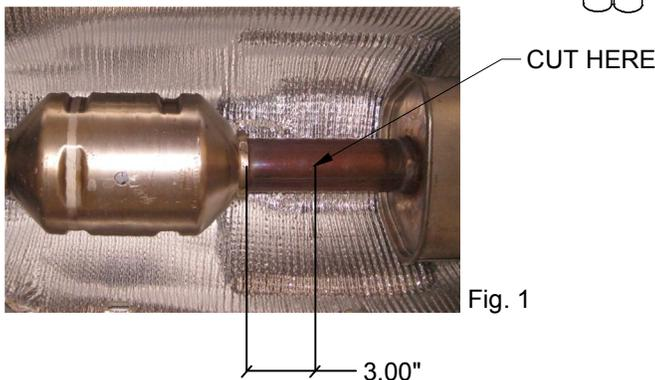

Fig. 1
**Step 1:** (Carefully read all instructions before installation) To extract the OEM exhaust system you need to remove the cross member and cut the exhaust in two locations, 3.00" from the rear of the Catalytic Converter (See Fig.1) and also where it goes over the rear axle. At this point you can detach the OEM rubber isolators and remove the exhaust system. Do not damage the OEM rubber isolators as they will be re-used to mount the new system.